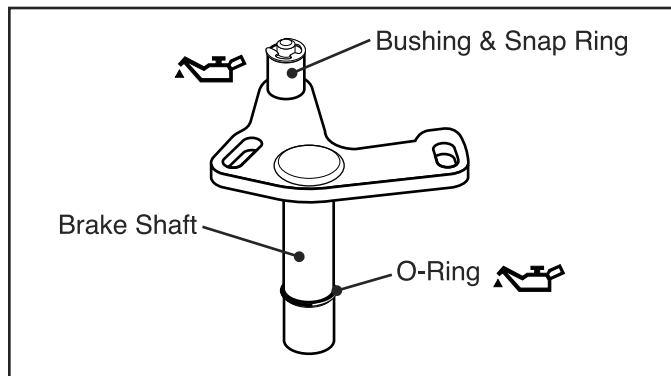

Fig. 4, Brake Shaft Assembly
1. Install a new O-ring onto the Brake Shaft. (Fig. 4)
2. Check Bushing for damage or exceptionable wear; replace if necessary. (Fig. 4)